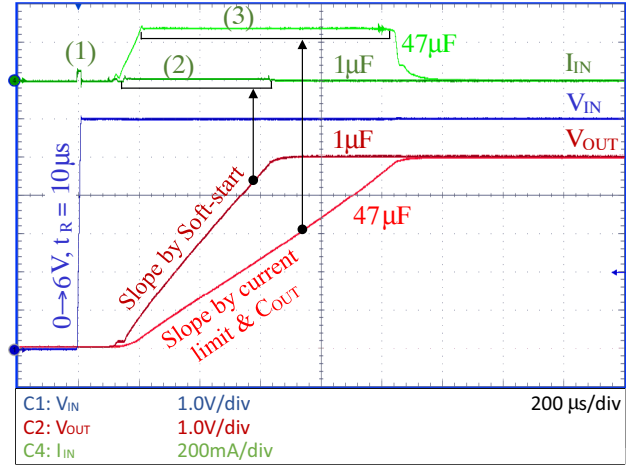

Figure 75.
Now back to LDO application. Here we can see two different inrush current spikes. The first one is caused by the LDO's input capacitor ( $C_{IN}$ ) charging from zero to the input voltage level. It happens when the previous power block (for example DC/DC) starts providing the input voltage to the LDO circuit. The maximum level of this inrush current is given by Equation 16. It doesn't matter if LDO is enabled or disabled as this inrush current spike is related only to  $C_{IN}$  and it can't be suppressed by the LDO, it is matter of previous power block. This inrush current spike is shown at Figure 75, point (1).